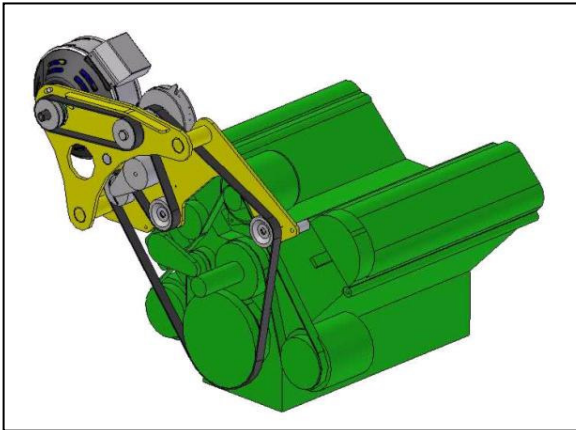

Figure 1
2. Evacuate air conditioning system using approved methods. Disconnect the return line at the accumulator install the Raven supplied pivot clamp to reattach the line to the accumulator. Swing the return line out toward the inner fender to make room the generator. **See Figure 1** Recharge the system.